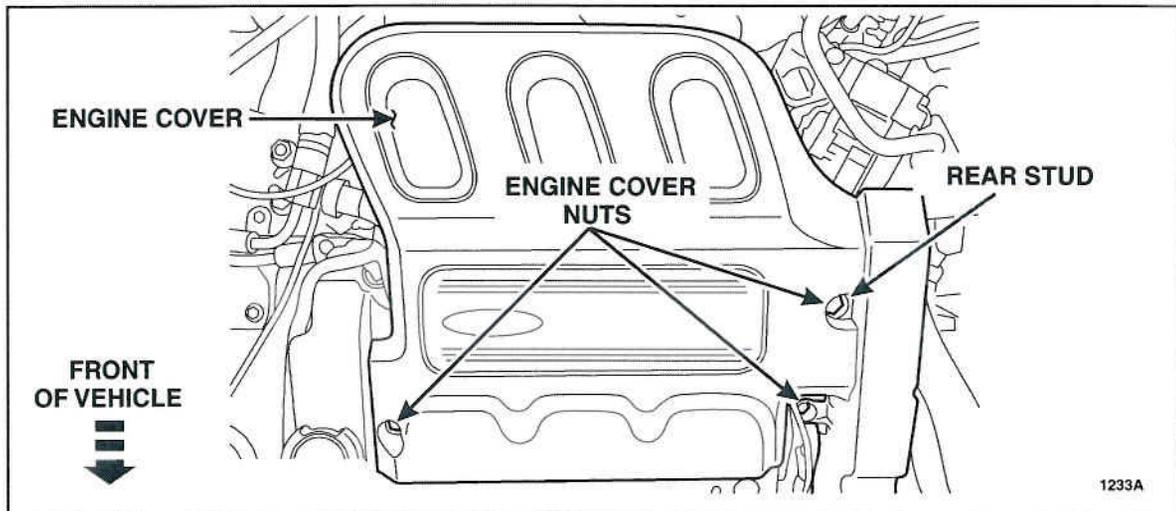

FIGURE 1
1. Remove the three nuts and the engine cover. See Figure 1.
- Reinstall the engine cover and tighten the three nuts. See Figure 1.